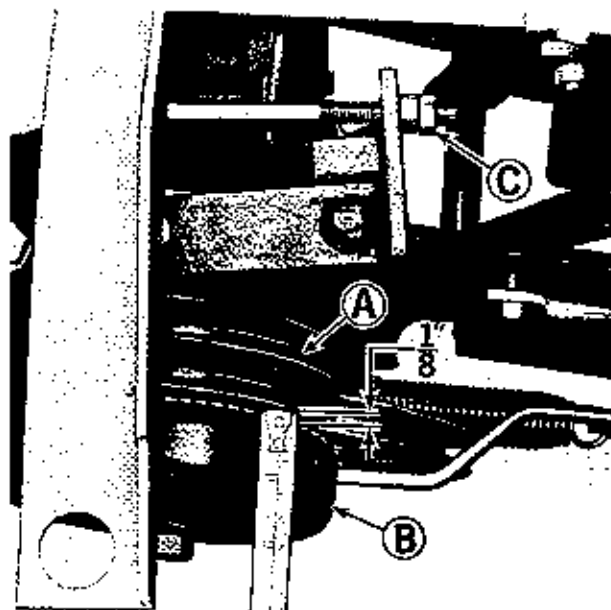

Figure 16. Power take off clutch.
See figure 16. The power take off clutch is properly adjusted when pulley (A) moves  $1/8''$  when the power take off control lever is engaged and disengaged. If adjustment is required, proceed as follows: